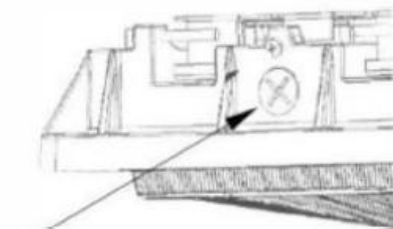

Figure 17
7. Remove one of the 1/2" conduit plugs from the side of luminaire housing (see Figure 17).